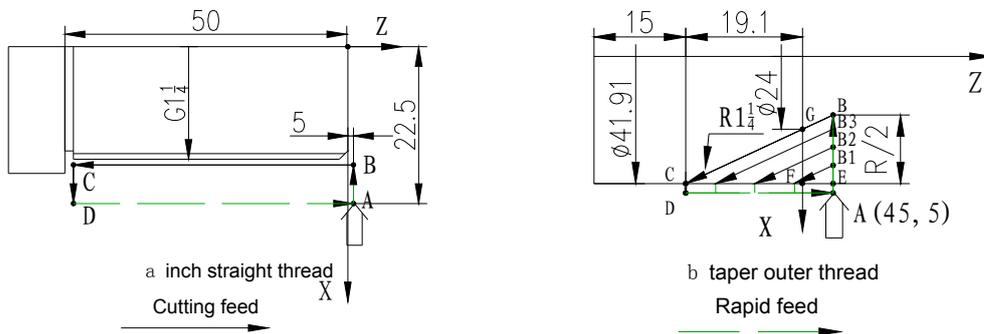

Fig. 4-28
5) Compound example: as Fig. 4-28
Example 1: Metric straight thread as Fig. 4-28 a. ($G1 \frac{1}{4}$: 11 teeth, $D=41.910$, $D2=40.431$,
Example 2: Outer taper thread as Fig. 4-28 b ($R1 \frac{1}{4}$: $D=41.910$, $D2=40.431$, $D1=28.952$, $P=2.309$, the valid length of thread is 19.1)